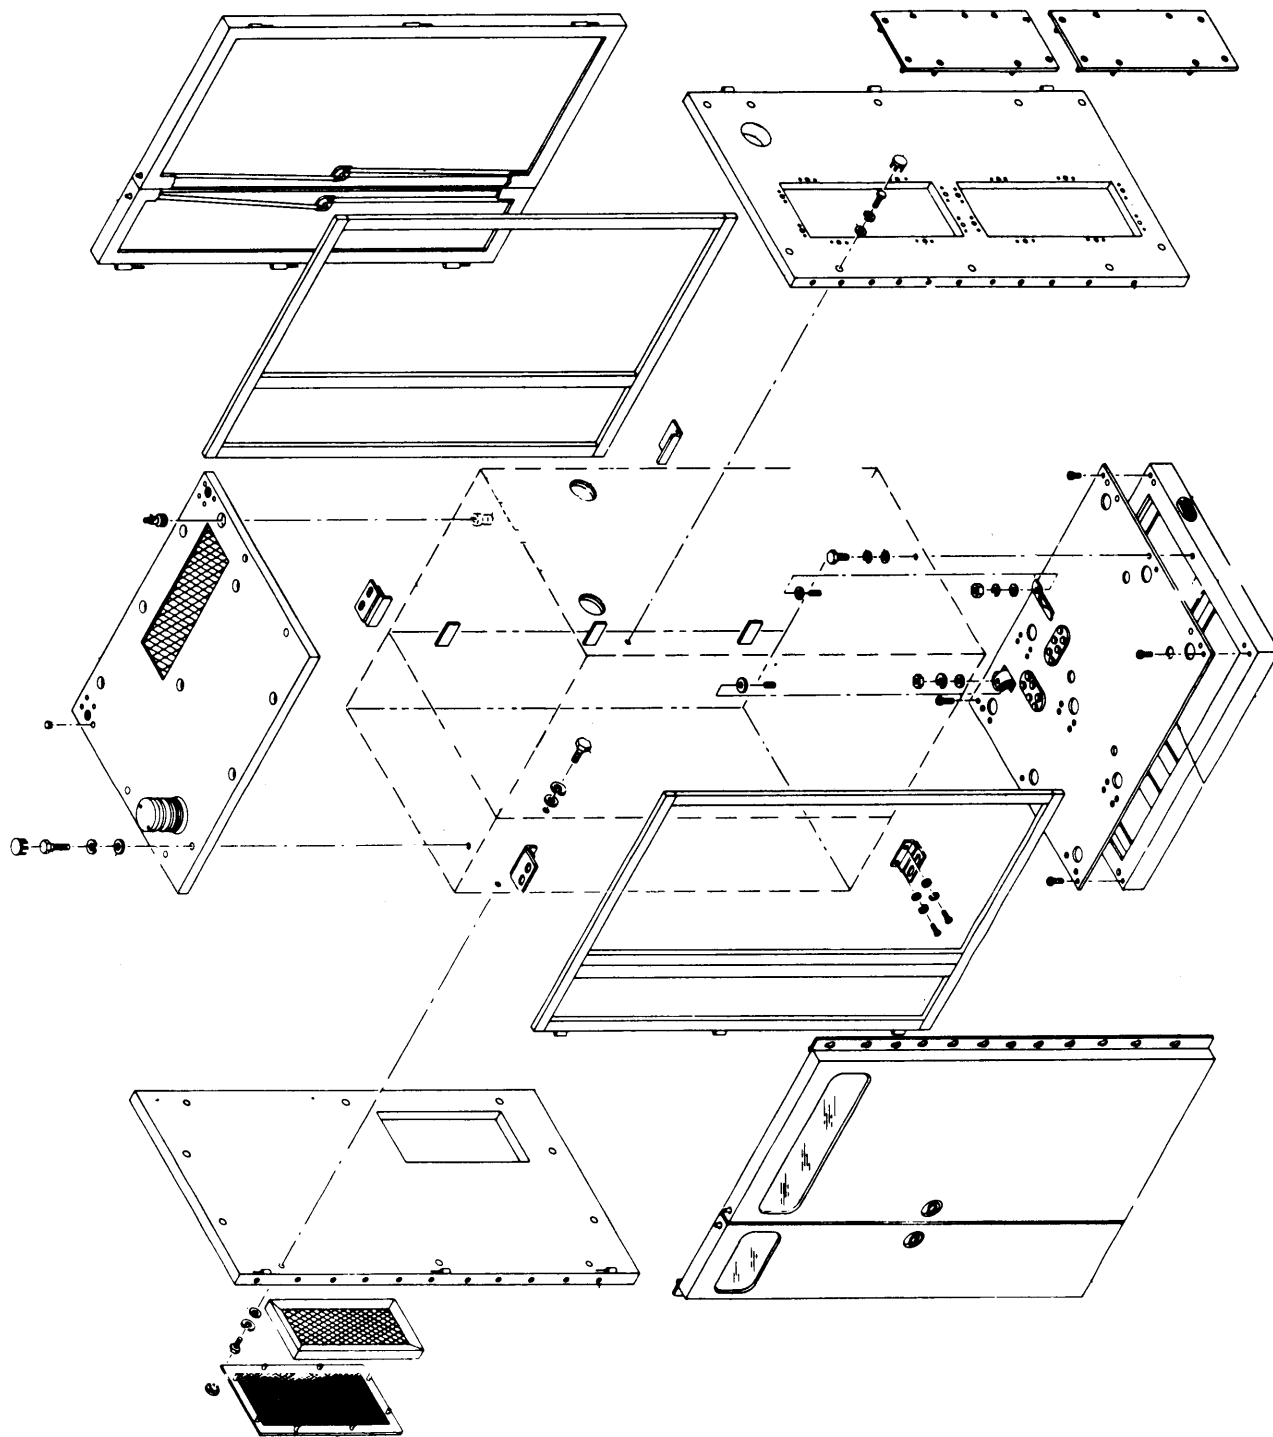

Figure 2-13. Exterior Covers and Trim, Installation Diagram
- (28) Installation of high voltage lamp:
- (a) Remove top of crate 9 and remove cover top MS1699 on top of the frames (refer to figure 2-13).
- (b) Appropriately position cover top MS1699 on top of the frames (refer to figure 2-13).
Refer to figure 2-13.